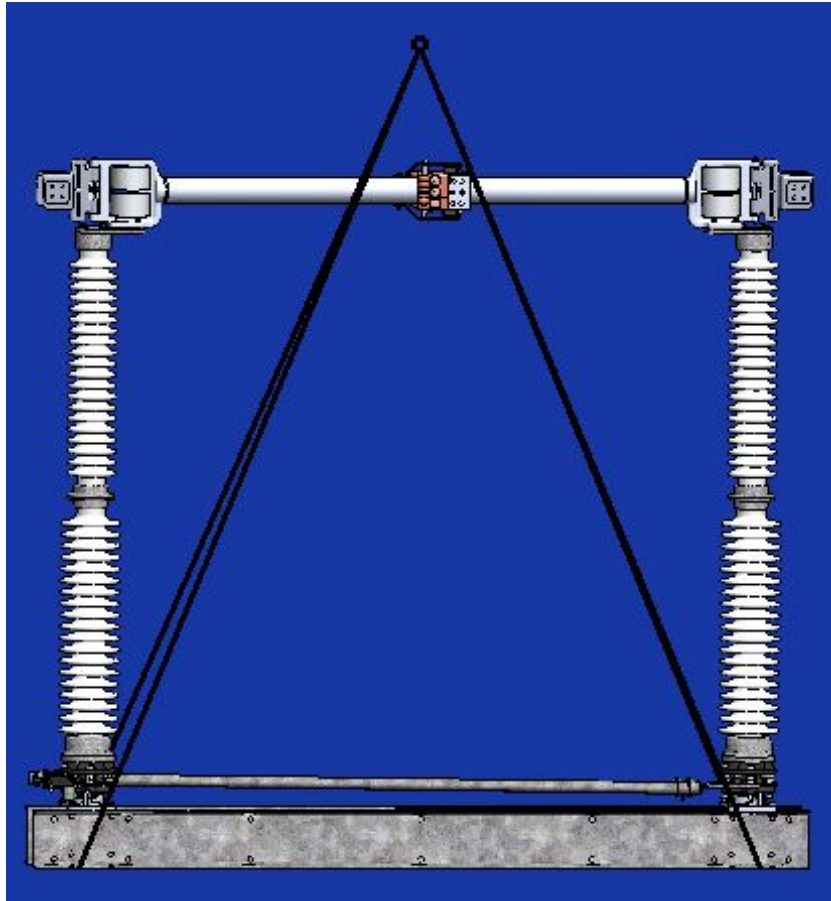

Figure 15: Sling Attachment
2. Assemble the switch pole on the ground and hoist it to the structure as a complete unit. **CAUTION:** To prevent overturning during assembly, the switch base must be securely attached to a level, stable platform. **CAUTION:** Lift fully assembled pole unit by the base only. **DO NOT lift the pole unit by the live parts.** Refer to **Figure 15.**
4. Lift the assembled switch by the switch base only. Refer to **Figure 15**.